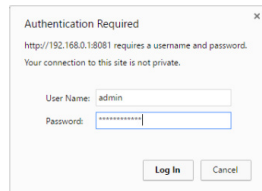

Figure 16: xPicoWiFi Login Dialog Box
5. A dialog box will appear. Type “admin” in lower case in the User Name box and the full MAC/Serial # without dashes (e.g. 0080A3AB01C8) in the Password box. Click on Log In button. See Figure 16.